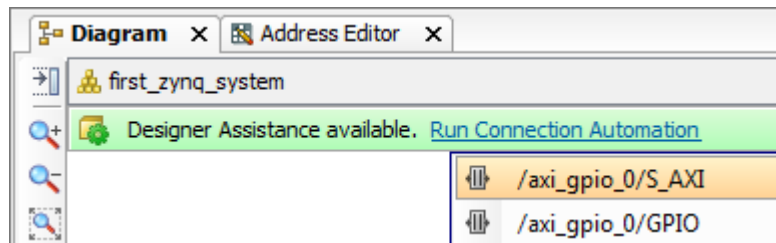

Figure 1.15: Run Block Automation - GPIO
- (g) Click **Run Connection Automation** from the *Designer Assistance* message at the top of the *Diagram* window and select **/axi_gpio_0/S_AXI**, as shown Figure 1.15.